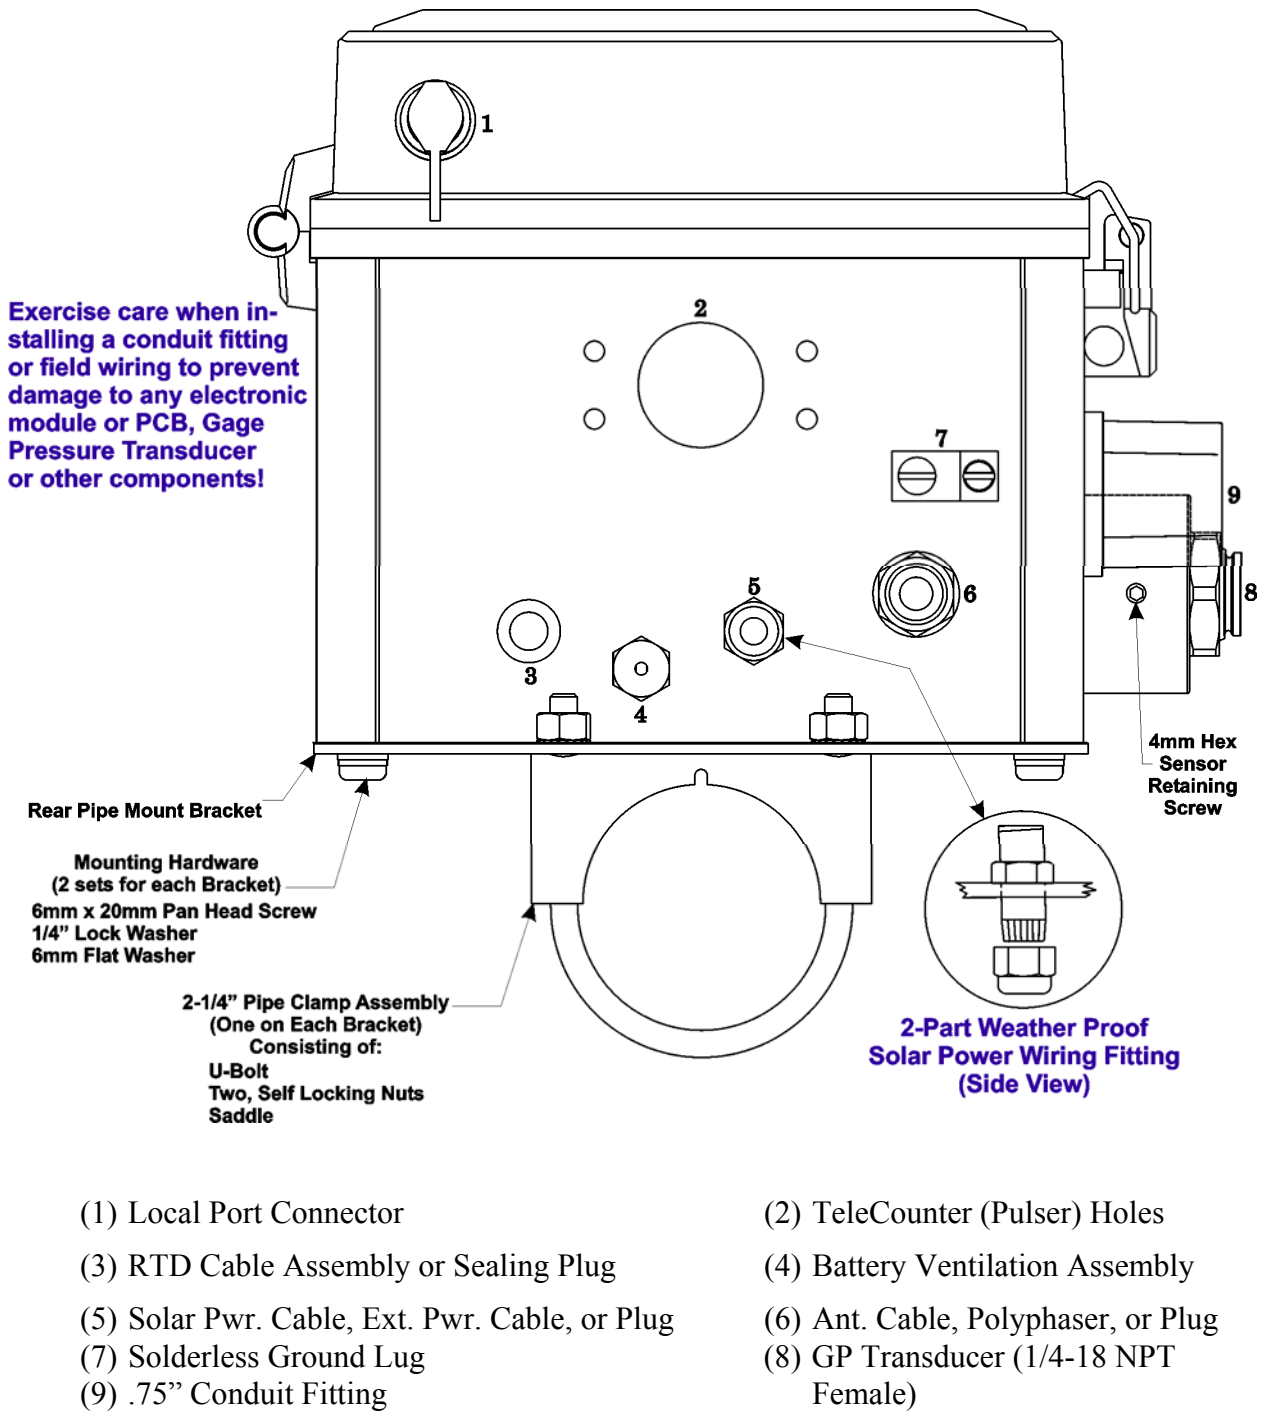
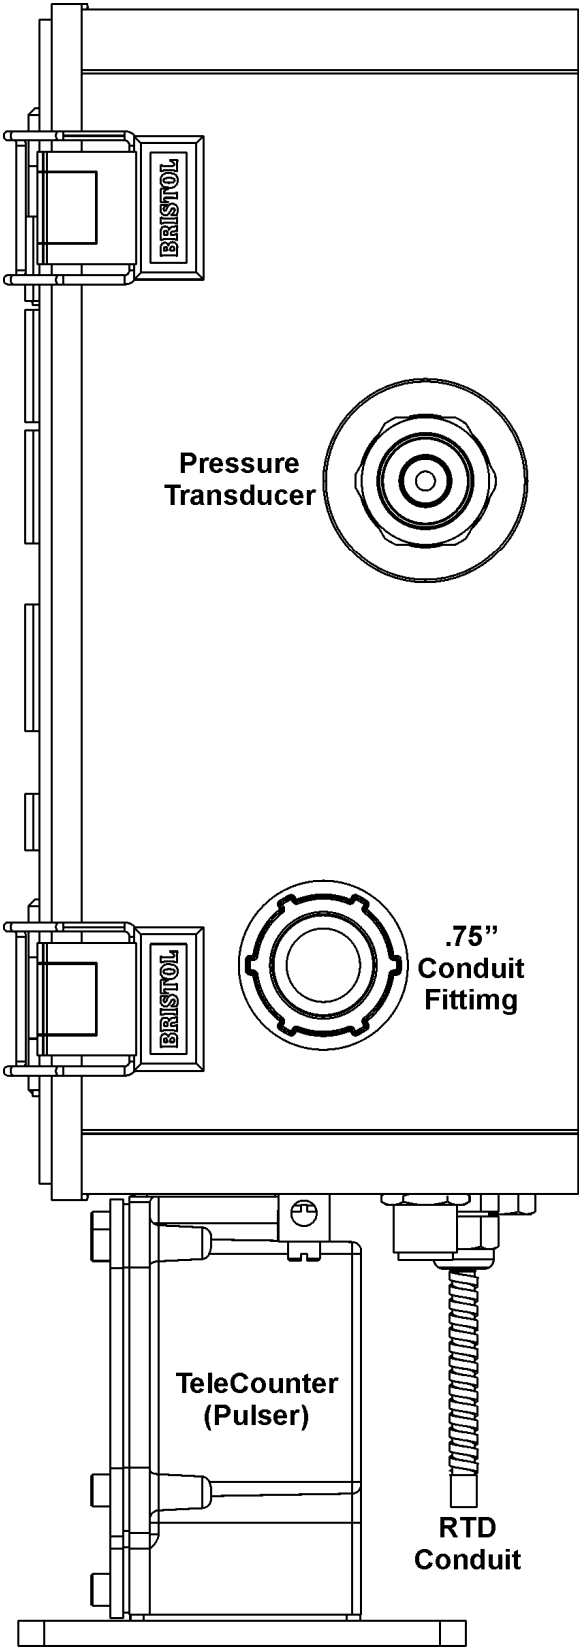

Figure 2-4. ControlWave Corrector Bottom View
Figure 2-5. Side View of ControlWave Corrector (with TeleCounter)
- You must position the ControlWave Corrector vertically. Units equipped with the TeleCounter (Pulser) assembly mount directly to a turbine meter. Units that do not have the optional TeleCounter assembly can be mounted remotely to a panel or wall or to a vertical 2" pipe (clamped at the rear of the unit via two clamps and four bolts – see *Figure 2-4* and *Figure 2-6*). If used, the 2" pipe must be anchored in cement (deep enough to conform to local building codes associated with frost and support considerations).
One optional Gage Pressure Transducer (GPT) secured to the right side of the enclosure (facing the front of the unit) can be provided with each ControlWave Corrector. Gage pressure transducers are equipped with a 1/4-18 NPT female pipe fitting (see *Figure 2-4* and *Figure 2-5*).
The ControlWave Corrector enclosure includes a ground lug. If your unit has a GPT, see *Figure 2-4* to locate the ground lug. Once you have installed the unit, run a ground wire (#4 AWG max wire size) between the ground lug and a known good earth ground. Connect the cases of temperature transducers, pressure transmitters, and so on to the known good earth ground. For more information on grounding see the *ControlWave Grounding Supplement (S1400CW)*: